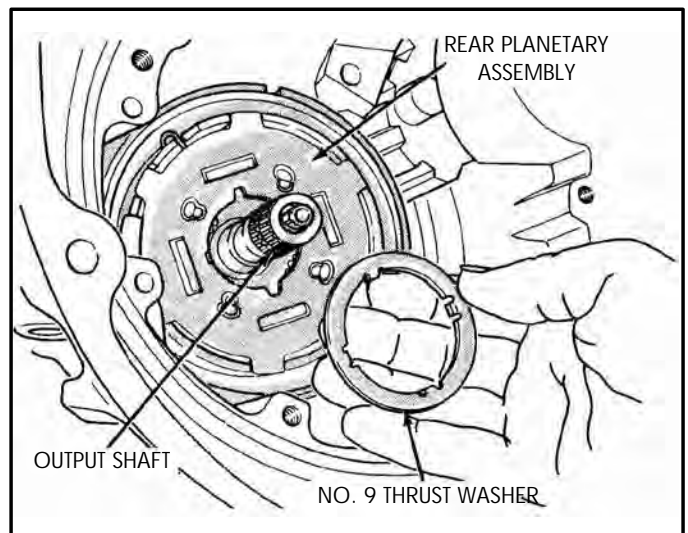

Figure 53
32. Remove the number 9 thrust washer, as shown in Figure 53.